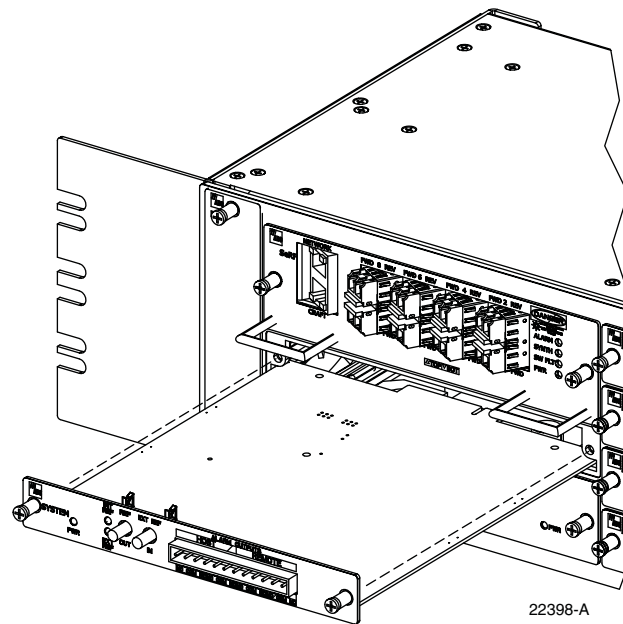

Figure 23. System Card Replacement
5. Loosen the two thumb screws that secure the System Card to the front of the HU enclosure. See Figure 23.